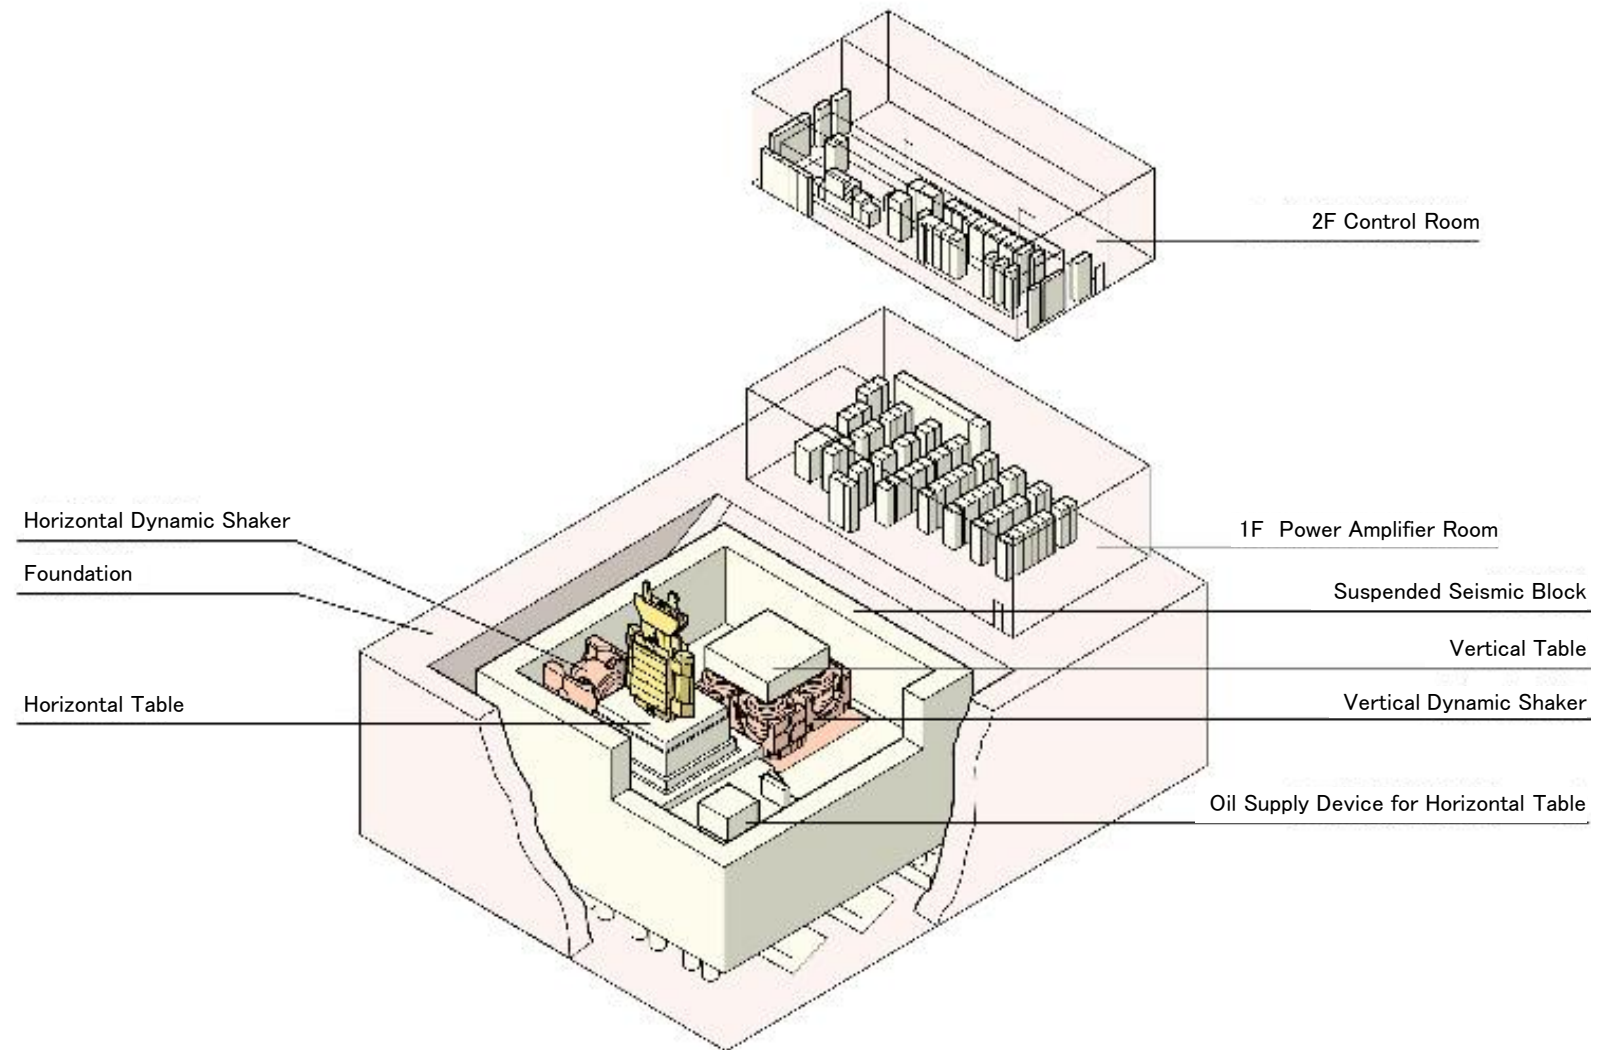

Figure 2-1 Bird's Eye View on Large Vibration Test Facility
This facility consists of the following systems (1) ~ (6). Its bird's eye view and system diagram are shown in Figures 2-1 and 2-2, respectively.
(1) Shaking system